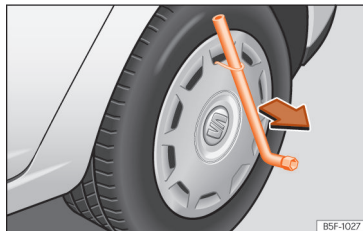

Fig. 185 Remove the wheel cover.
- Insert the box spanner through the hook, rest it on the tyre and remove the wheel trim >>> Fig. 185.